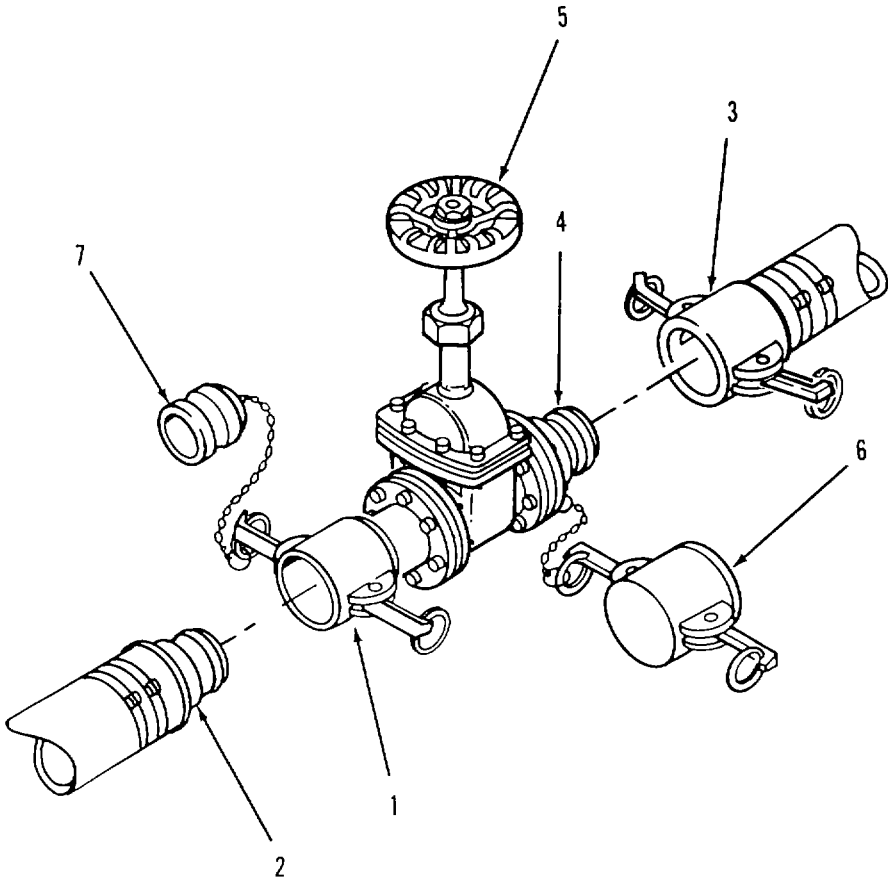

Figure 3-1. Component Replacement.
- a. Removal. Refer to figure 3-1.
- (1) Disconnect female coupling (1) from male coupling (2).
- (2) Disconnect female coupling (3) from male coupling (4).
- (3) Remove defective 4-inch gate valve (5) from water system.
- (4) Install cap (6) on male coupling (4)
- (5) Install plug (7) in female coupling (1).
- b. Installation. Refer to figure 3-1.
- (1) Remove plug (7) from female coupling (1).
- (2) Remove cap (6) from male coupling (4).
- (3) Position replacement 4-inch gate valve (5) in water system
- (4) Connect female coupling (1) to male coupling (2).
- (5) Connect female coupling (3) to male coupling (4).
- (6) Startup water system (para. 2-12c) and check for leaks at 4-inch gate valve (5).